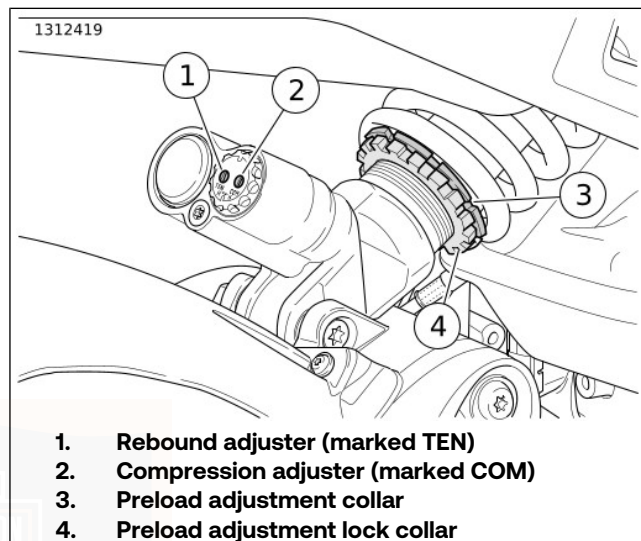
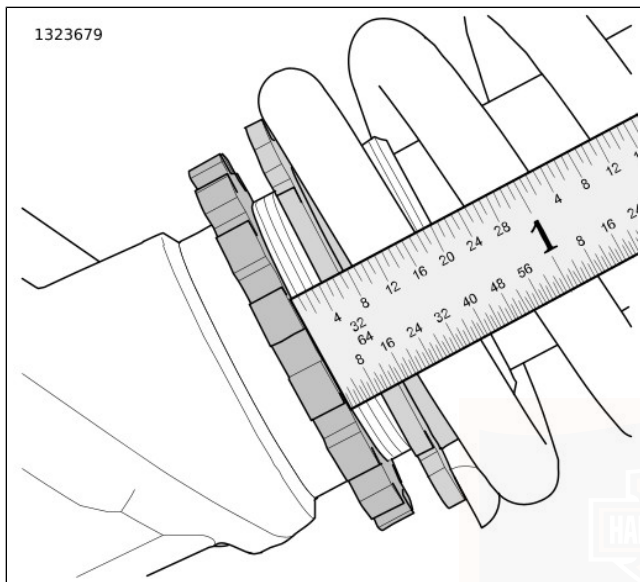

Figure 20. Rear Suspension Adjustment
Figure 21. Rear Suspension Measurement
See Figure 20. Turn rebound adjuster (1) clockwise in the H (hard) direction until it stops. This is the maximum rebound damping setting.
2. Turn rebound adjuster (1) counter-clockwise in the S (soft) direction the recommended number of turns. Refer to Table 26.
See Figure 20. Turn compression adjuster (2) clockwise in the H (hard) direction until it stops. This is the maximum compression damping setting.
2. Turn compression adjuster (2) counter-clockwise in the S (soft) direction the recommended number of turns. Refer to Table 26.
1. Figure 20 Release the lock collar (4) on shock absorber by turning only the lock collar counter-clockwise until it stops at bottom of the threads.
3. See Figure 20 and Figure 21. Adjust preload adjustment collar to the desired position.
- a. Turn adjustment collar (3) clockwise to increase preload distance.
4. Turn lock collar (4) clockwise and tighten against adjustment collar.